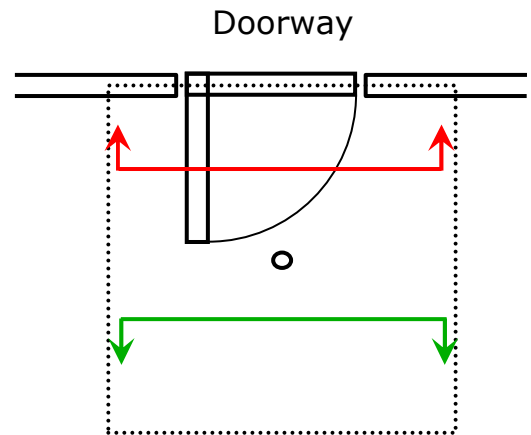

Figure 10.1
- In some circumstances, the door will cause false counts, if the count lines are positioned incorrectly. See Figure 10.1.